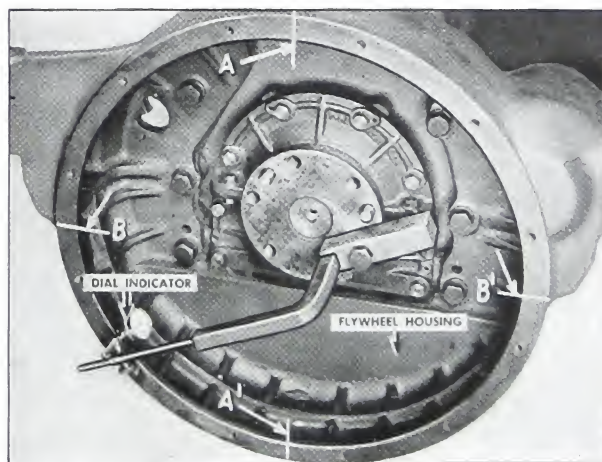

Fig. 12-9. Indicating flywheel housing bore with ST-112 and dial indicator
4. Fasten an indicator to the crankshaft flange as shown in Fig. 12-9 to indicate the bore of the housing.